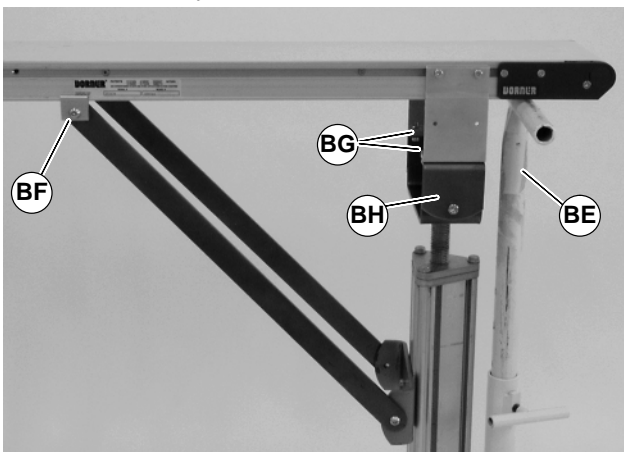

Figure 39
1. Place temporary support stand (BE of Figure 39) under conveyor.
6. Re-tighten post bolts (BI).
7. Lower conveyor onto conveyor support (BH of Figure 39). Attach conveyor with fastening hardware (BG).